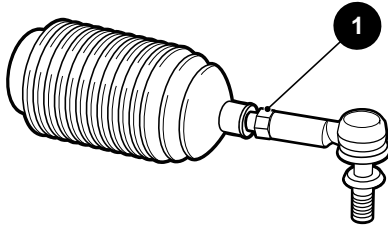

Figure 4 Tie Rod Jam Nut
6. To adjust the wheel alignment, loosen the tie rod jam nut (1) and turn the tie rods an equal number of turns until the correct alignment is achieved. **Failure to turn both tie rods the same number of turns will result in poor turning radius** (Figure 4).
7. Tighten the tie rod jam nuts (1) to torque value specified below.